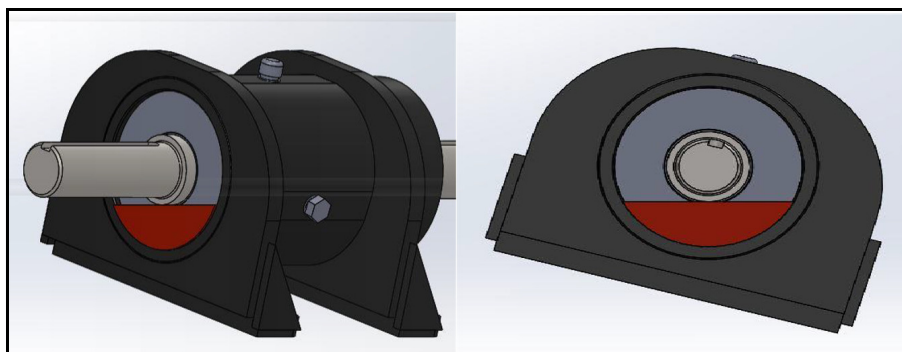

Figure 5.22 Correct Rotor Bearing Cartridge Oil Level
5. The oil level should come up to the lower edge of the check plug hole, which is the correct level while the bearing cartridge is at its installed angle (see Figure 5.22). If necessary, add oil through the breather plug hole (use SAE 75W90 synthetic gear oil) until the correct oil level is reached.